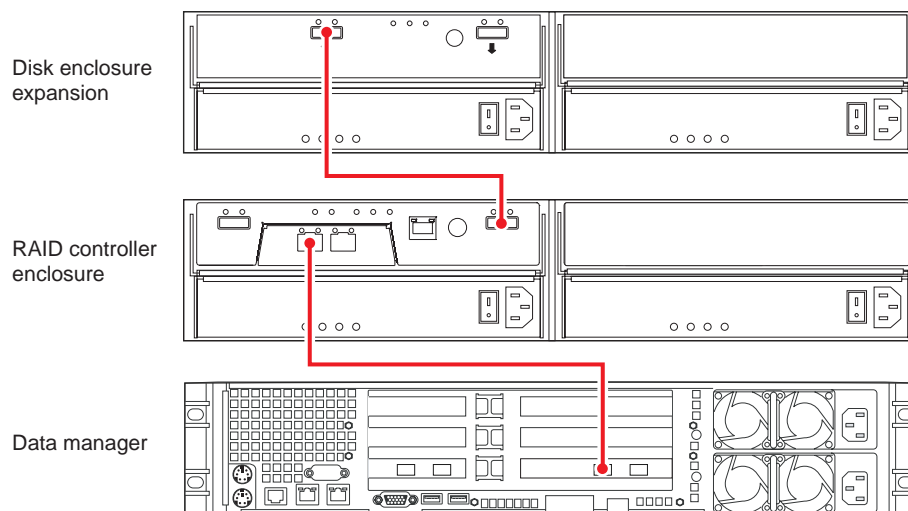

Figure 1-13 Data Manager, Single-Controller RAID Enclosure and One Disk Expansion
Use the following steps and Figure 1-13 to cable a data manager to a single-controller RAID enclosure with one disk expansion enclosure.
1. Connect the Data Manager's Fibre Channel PCI card port A to the RAID controller's host 1 port in the controller enclosure, see Figure 1-13.
Note: If you need to connect an additional disk expansion unit to the configuration shown in Figure 1-13, use step 3 in the following instructions.